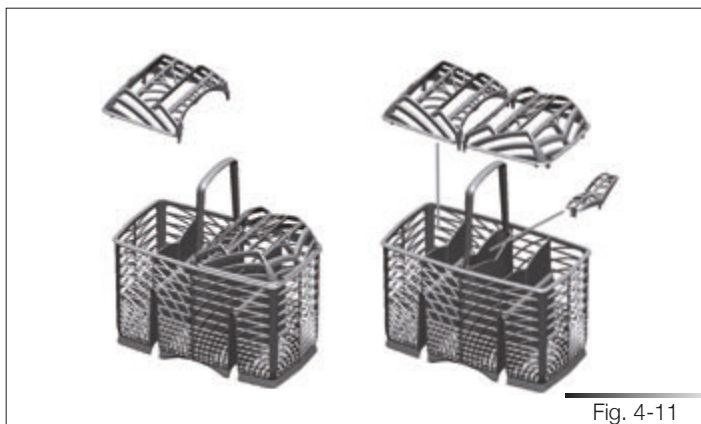

Fig. 4-11
4.3.2 Cutlery basket (see fig. 4-11/4-12 depending on models)